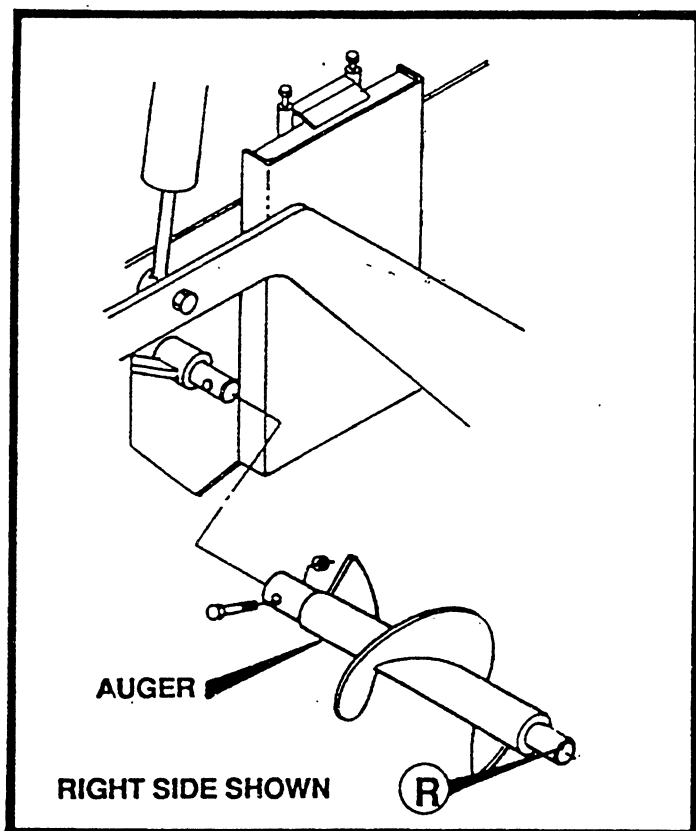

FIGURE 13
1. Identify the right and left auger extensions by looking for the L or R on the end of the auger extension shaft. See figure 13.